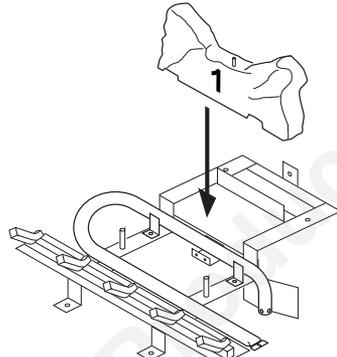

Figure 41 - Installing Log No. 1
1. Place log #1 (rear log) on top of grate. Make sure notches in bottom of log fit over grate (see Figure 41).